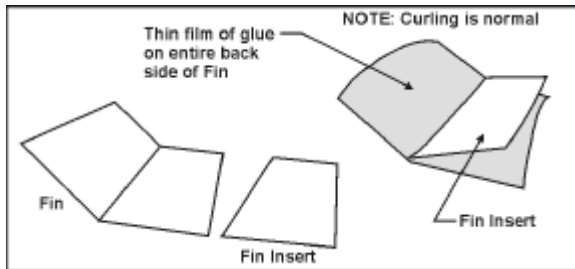

Figure 9
- Using **Figure 9** as a guide, If using **White Glue**, spread a thin film of glue to the entire back side of one Fin. Carefully place the Fin Insert onto one-half of this fin, lining up the